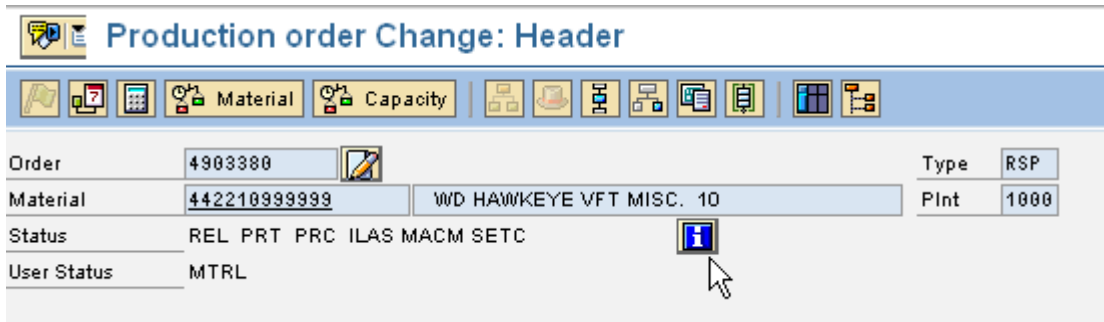

Fig. 22
10.6. Click on the "Status" icon  to display the "Change status" screen (Fig. 22)